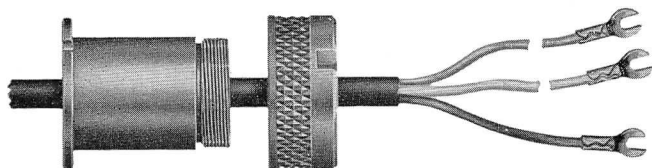

Fig. 4—Sleeve-type Bushing
**2.04 Explosion-proof Handsets:** F6A and F6B handsets are listed by the Underwriters' Laboratories, Inc. for use with telephone sets for hazardous locations. The handset cord is attached to the telephone set by means of a bushing that is designed to confine any possible burning gases to the interior of the telephone set. The F6A handset is equipped with a sleeve-type bushing and the F6B with a threaded type. At least five threads of the threaded type must engage the threads of the housing. These two types of bushings, shown in Figs. 4 and 5, are not interchangeable. If any part of an F6A or F6B handset, except the transmitter cap or receiver cap, requires replacement, replace the entire handset assembly.